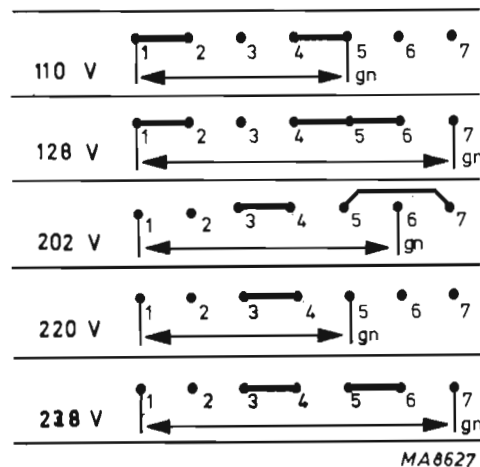

Fig. 3. Connection diagram for the different mains voltage
- Alter the circuitry of the primary in accordance to schedule Fig. 3.